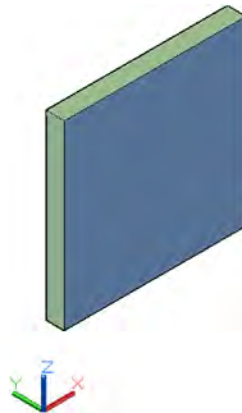

FIGURE 22.2
Step 5. Here, you can enter any numerical value, but let us stay with 90° for now. Type in 90 and press Enter. The plate rotates 90° around the X axis and stands on its end, as in Figure 22.2.
In the same exact manner, practice rotating the plate around the other axes. From where it is right now in Figure 22.2, a rotation around the Z axis makes it face the lower left side of the page. A rotation around the X axis makes it lay down flat again, and a rotation around the Y axis produces no visible results, aside from a shift in position, as the plate is a perfect 10" × 10" square.